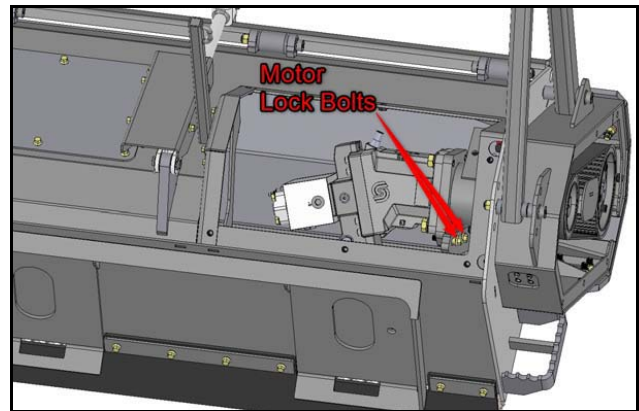

Figure 13
5. Loosen both motor lock bolts [Figure 13].